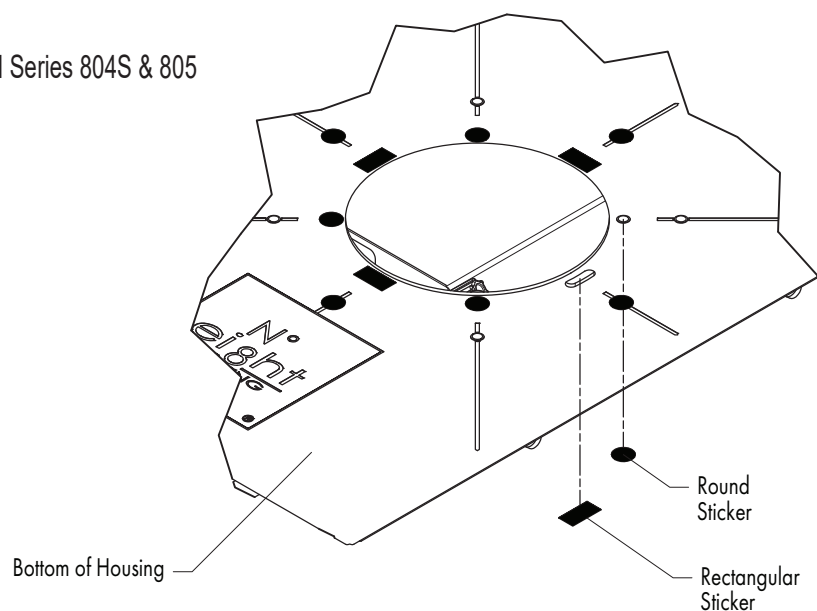

FIG 3.3 Add Stickers to Housing Aperture Holes & Slots
STEP 5 To reduce possibility of light leak, apply Stickers over unused holes & slots as shown-FIG 3.3.